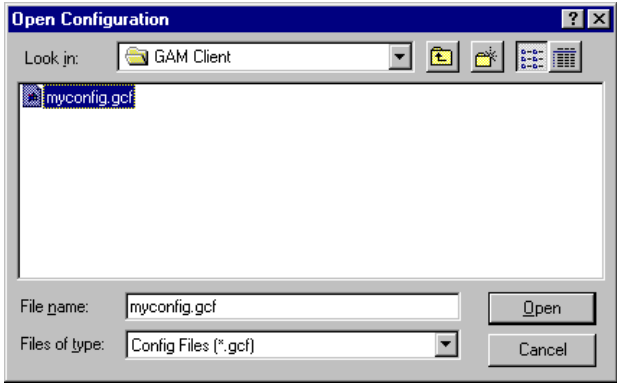

Figure 4-6. Open Configuration Dialog Box
1. In the Open Configuration dialog box (Figure 4-6), select the configuration file you wish to open to save to the controller.